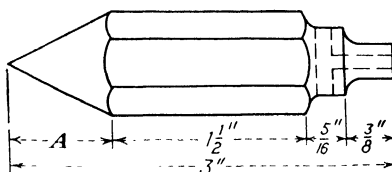

Fig. 27.—Plumb bob.
4. What is the length of A in Fig. 27?